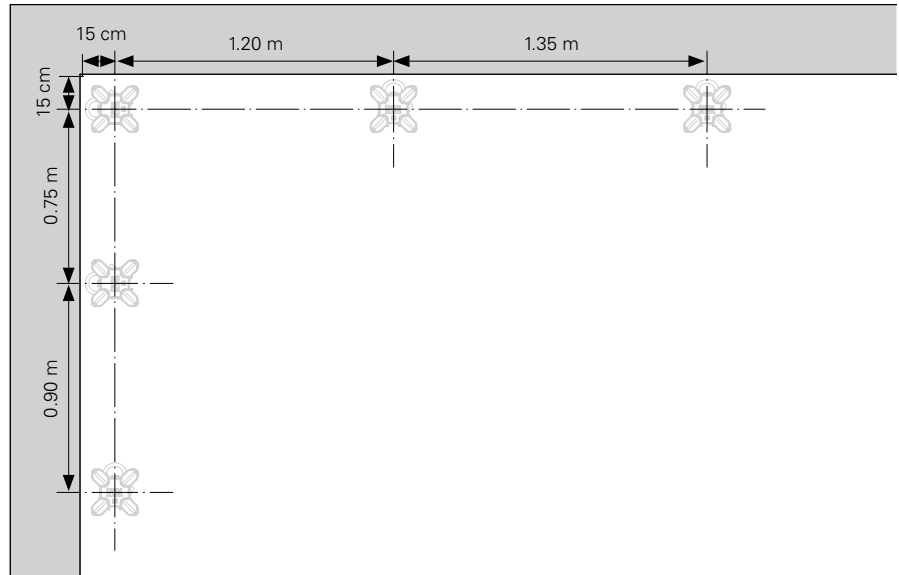

Fig. D2.12
2. Position the slab prop with DFH prophead (**32**) below the long panel side, see the Slab Prop Plan. (Fig. D2.12)